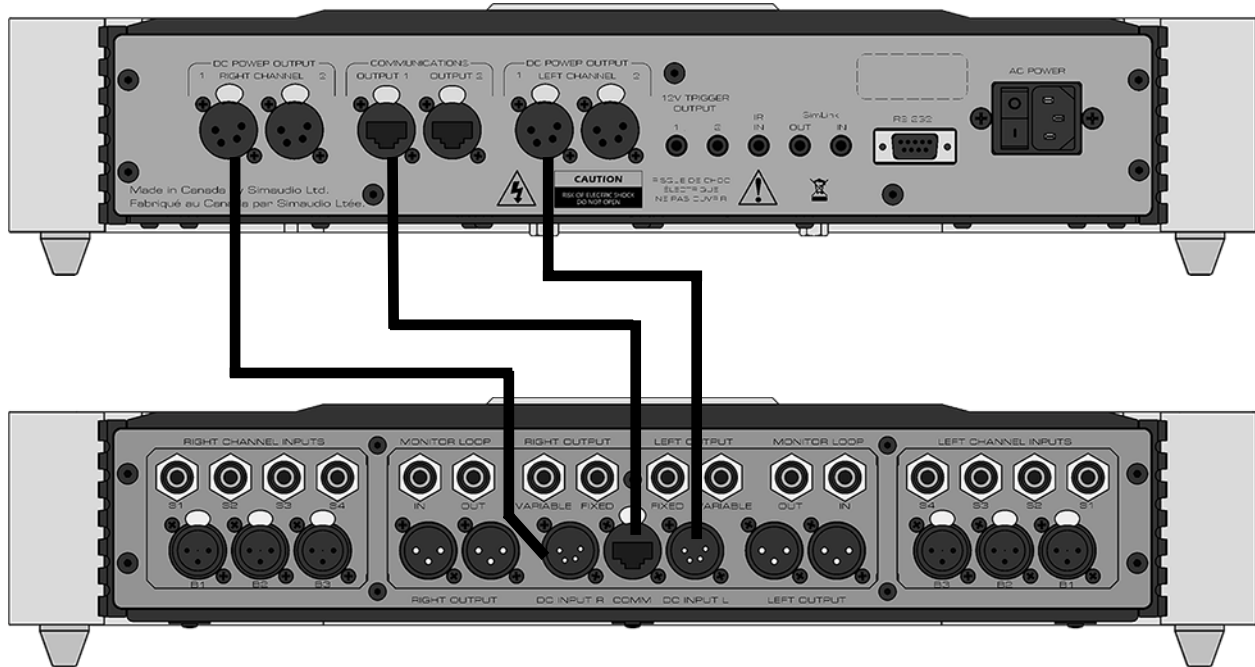

Figure 1: Connecting the MOON 850P Preampifier (bottom) and 850P Controller (top)
There are three (3) connections that must be made between the **MOON 850P** Preampifier's chassis and its separate controller chassis as shown above in Figure 1.